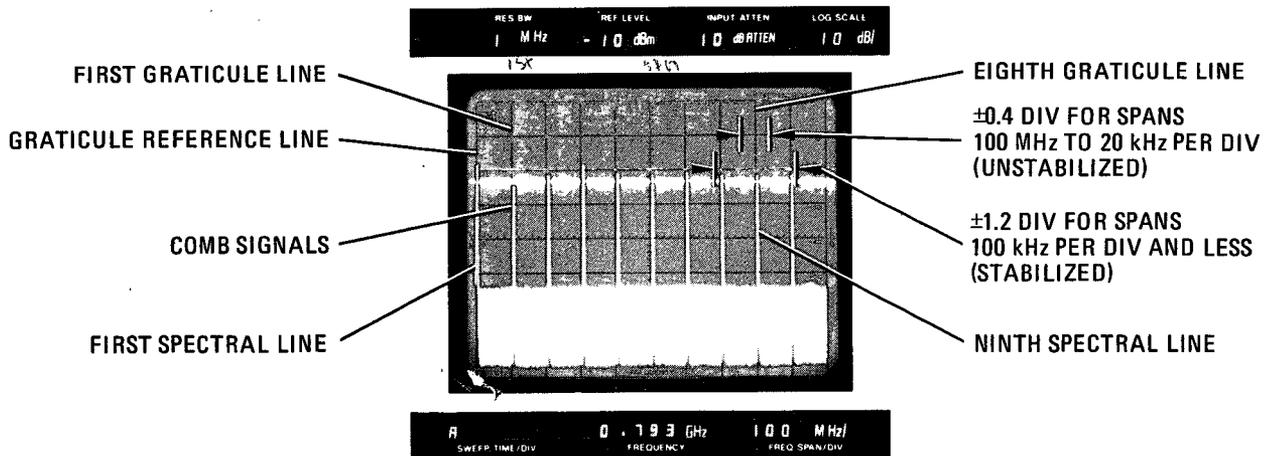

Figure 4-4. Span Width Accuracy Measurement, 100 MHz per Division and Less
- m. Adjust spectrum analyzer TUNING control to position one spectral line (from comb generator) at graticule reference line (first graticule line at far left) of display. Measure error between ninth spectral line and eighth graticule line. Error should not exceed ± 0.4 division. (See Figure 4-4.)